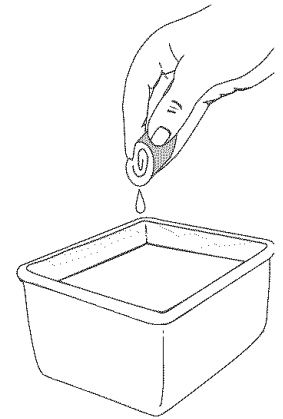

Fig. 20
3. Wash the filter in detergent and water (Fig. 20). Rinse the filter thoroughly. Squeeze out excess water. Allow it to dry completely.